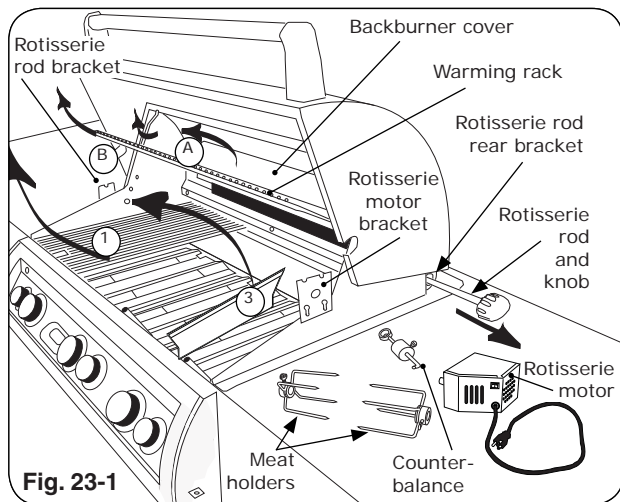

Fig. 23-1
2. Slide rotisserie motor fully onto motor bracket (right side, Fig. 23-1 and 23-2).
3. Remove rotisserie rod from rear bracket (Fig. 23-1) and attach knob if necessary.